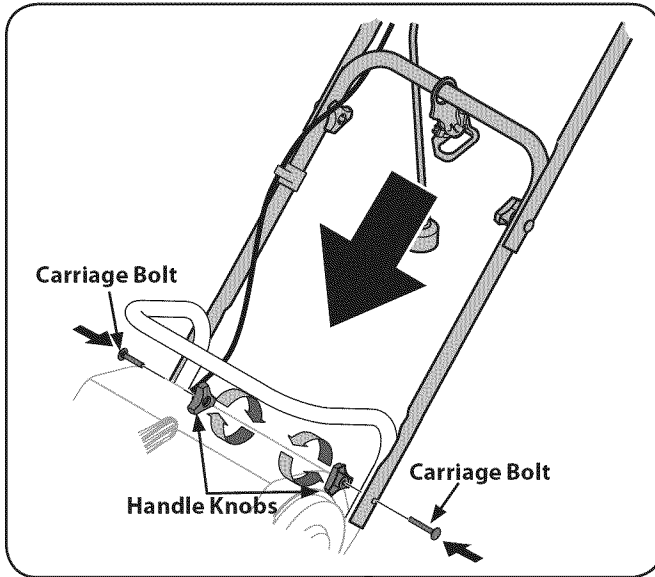

Figure 3-4
4. Place the mid and upper handles onto the lower handle. See Fig. 3-4.
5. Insert wing knobs and carriage bolt and tighten to secure upper handle and mid handle to the lower handle. See Fig. 3-4.